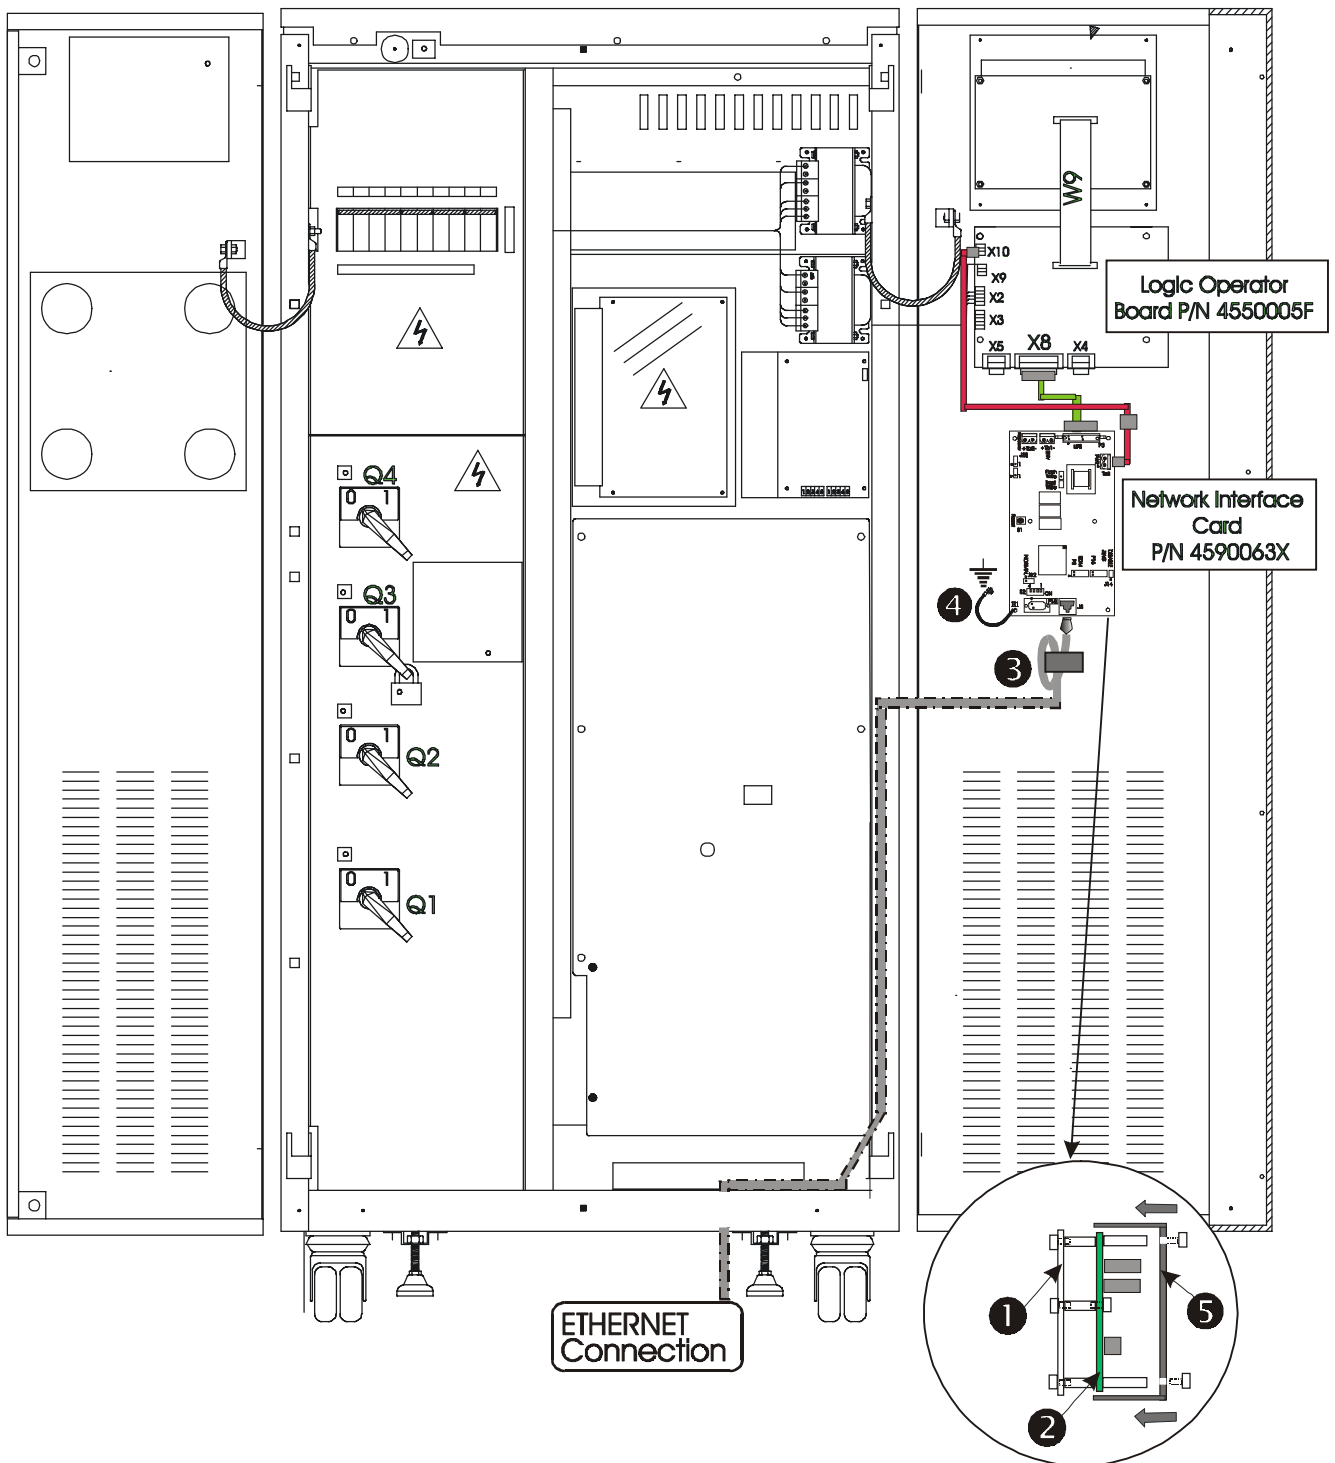
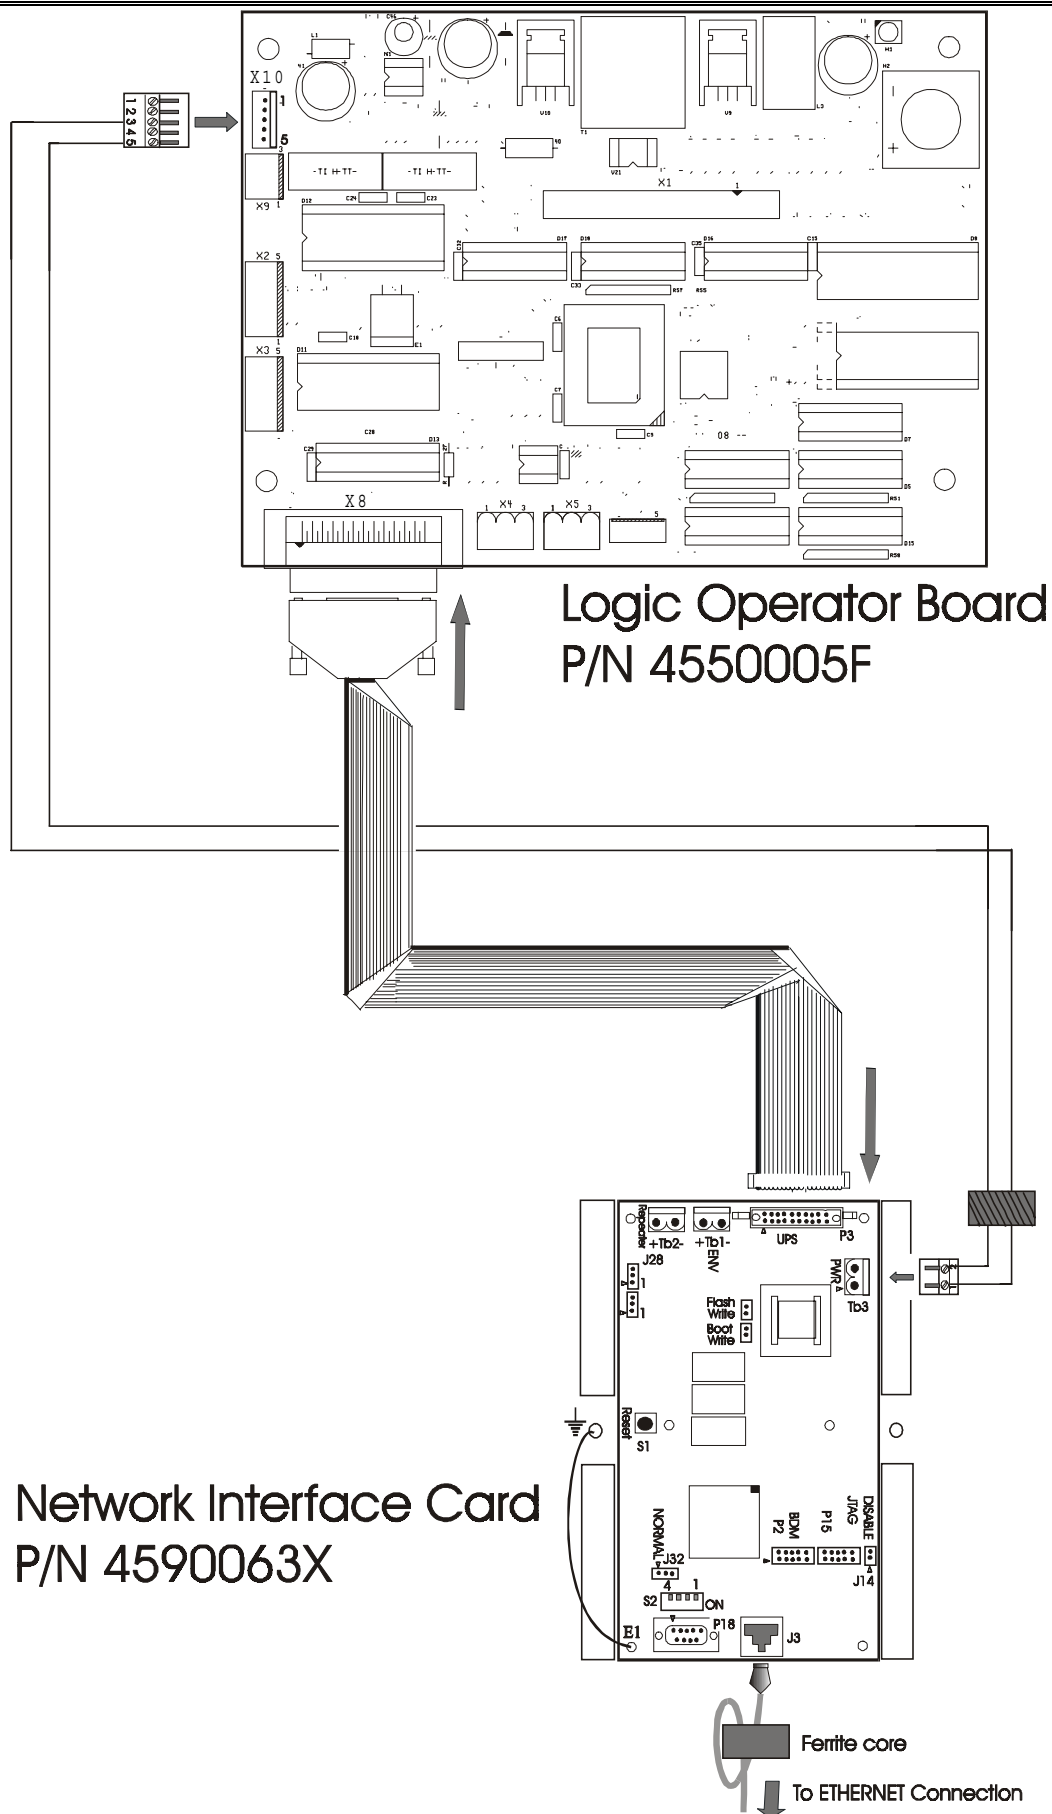

Figure 2-1 – Location of the kit P/N 4645114G inside the Liebert 7200 Series cabinet.
Figure 2-3 – Connecting the NIC card to the Operator Logic board.
Two user connections are required: a permanent network connection (see Fig. 2-3), and a temporary serial connection for configuration/setup of the NIC card (see Fig. 4-1).
The Operator Logic board and NIC card are located on the inside of the UPS access door (refer to Figures 2-1 and 2-2), protected by a metal cover and connected to the other electronic boards in the UPS. The NIC connects the UPS with a NMS through a RJ45 plug terminal (J3). As shown in figure 2-3.
The NIC card is installed in the rear of the operator access door (see figure 2-1).
1. Mount the aluminium plate ❶ of the NIC card ❷ in the location inside the cabinet, as shown in the figure 2-3, using the supplied screws.
Refer to figure 2-3 to make the power and communication connectors to the NIC card.
4. Connect the ETHERNET cable (type Category 5, as defined in paragraph 2.5.1) to the RJ45 socket (J3 on the NIC card), after winding it twice around the loose ferrite core ❸.
6. Fix the outgoing ETHERNET cable, following the cable way shown in figure 2-1, using the supplied cable ties.
7. Mount the metal cover ❹ (supplied) take care to connect the earth wire ❺ to E1 on the NIC card and to the frame using one of the fixing screws of the metal cover.
1. Remove the 'modem restrainer' ❶.
2. Remove the metallic cover of the Logic Operator Board (4550005F) ❷.
3. Mount the NIC card ❸ in the modem cavity, as shown in the figure 2-3, using the supplied screws.